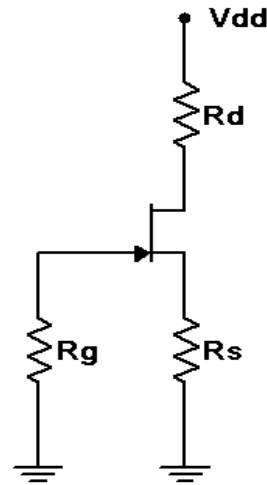

Figure 2
3. Consider the circuit of Figure 2 using $V_{dd} = 15$ volts, $R_g = 330 \text{ k}\Omega$, $R_d = 4.7 \text{ k}\Omega$, and $R_s = 2.2 \text{ k}\Omega$. Using the values of Table 1, calculate and record the expected voltages for JFET 1 in Table 2. Also record the expected drain current in Table 3.
4. Build the circuit of Figure 2 using $V_{dd} = 15$ volts, $R_g = 330 \text{ k}\Omega$, $R_d = 4.7 \text{ k}\Omega$, and $R_s = 2.2 \text{ k}\Omega$. Measure and record the voltages for JFET 1 in Table 2. Based on V_D , compute and record the experimental drain current in Table 3. Also determine and record the drain current deviation.